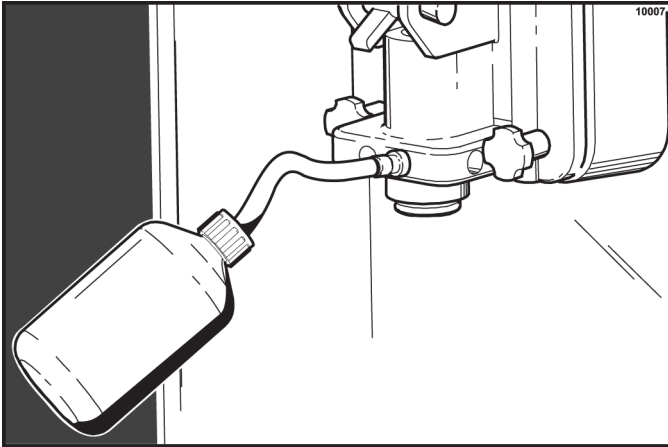

Figure 6-46
14. Fill the squeeze bottle with cleaning solution. With a pail beneath the door, insert the tube end of the squeeze bottle into each syrup port and squeeze the bottle firmly. This action will force solution out of the adjacent port and down around the spinner. This procedure should be performed for at least 10 seconds per port. (See Figure 6-46.)